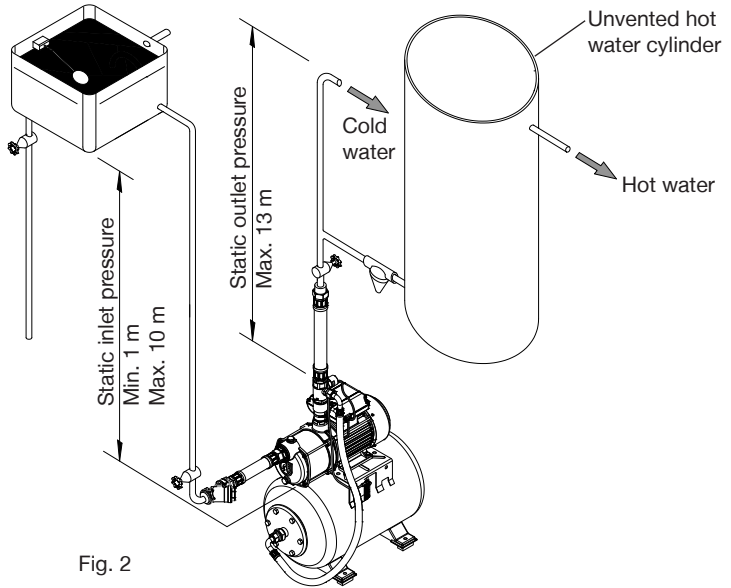

Fig. 2
- 2.16 **Static inlet pressure:** Before deciding where to locate the unit check to ensure the static inlet head between pump and the bottom of the cold tank (Fig. 2) is at least 1 metre and does not exceed the max inlet head of 10 metres.
- 2.20 **Static outlet pressure:** The static outlet head (Fig. 2) must also be within the maximum requirement of 13 metres.